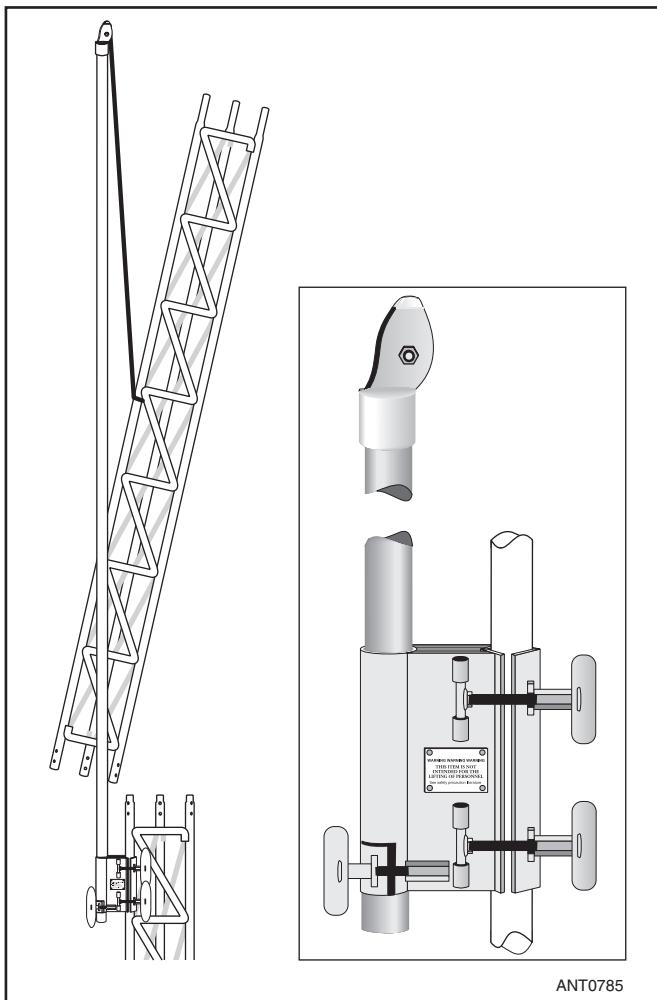

Figure 26.27 — Rohn “Erection Fixture” EF2545 also known commonly as a “gin pole.”
The purpose of a gin pole (see **Figure 26.27**) is to provide a support point high above the top of the tower for lifting and positioning an object. This allows the necessary work to be done on the object without whoever is doing the work having to support its weight at the same time. The Rohn gin pole (Rohn Erection Fixture EF2545) is rated for sections of Rohn 25G and 45G and comes with clamps to secure it to a leg of the assembled sections. Towers made of angled legs require a
3) The T-bar handle for the tube clamp is loosened, and the aluminum tube is extended to its maximum height, as shown in Figure 26.27. Make sure the free end of the haul rope cannot slip through the top pulley, or else you'll have to lower the gin pole and go through this step again. In other words, the climber keeps the "business end" of the gin pole rope while raising the pole.